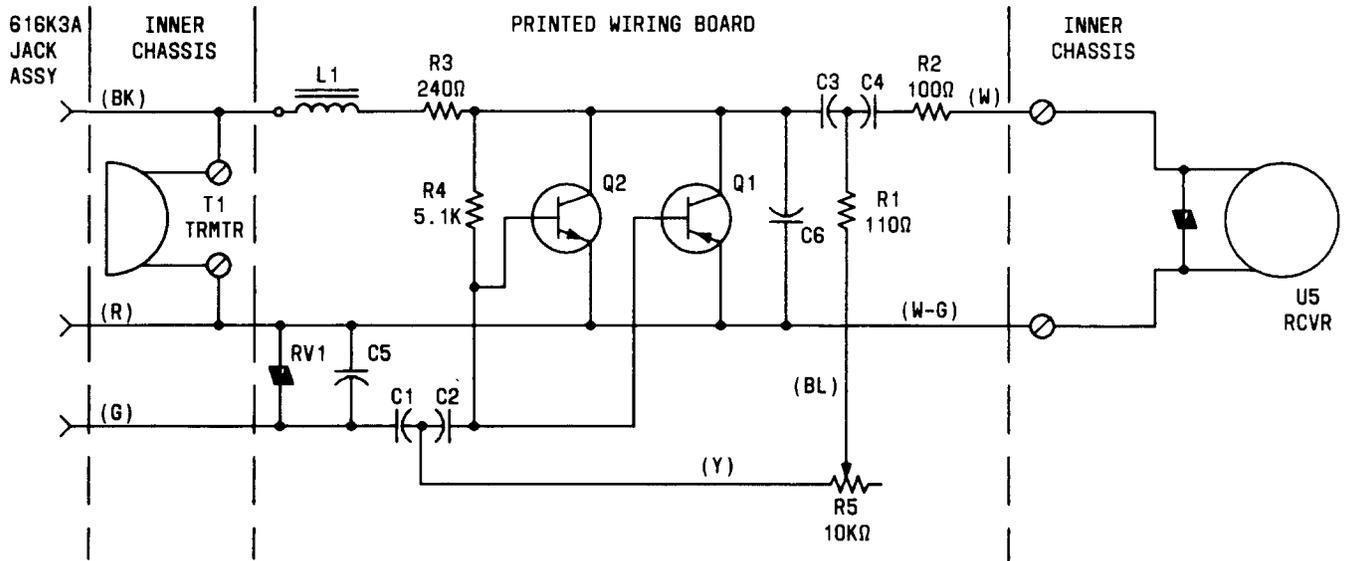

Fig. 10—▶ Schematic Diagram of K6-Type Impaired Hearing Handset
**3.03** Refer to Fig. 10 for electrical schematic diagram of K6A and K6C handsets.